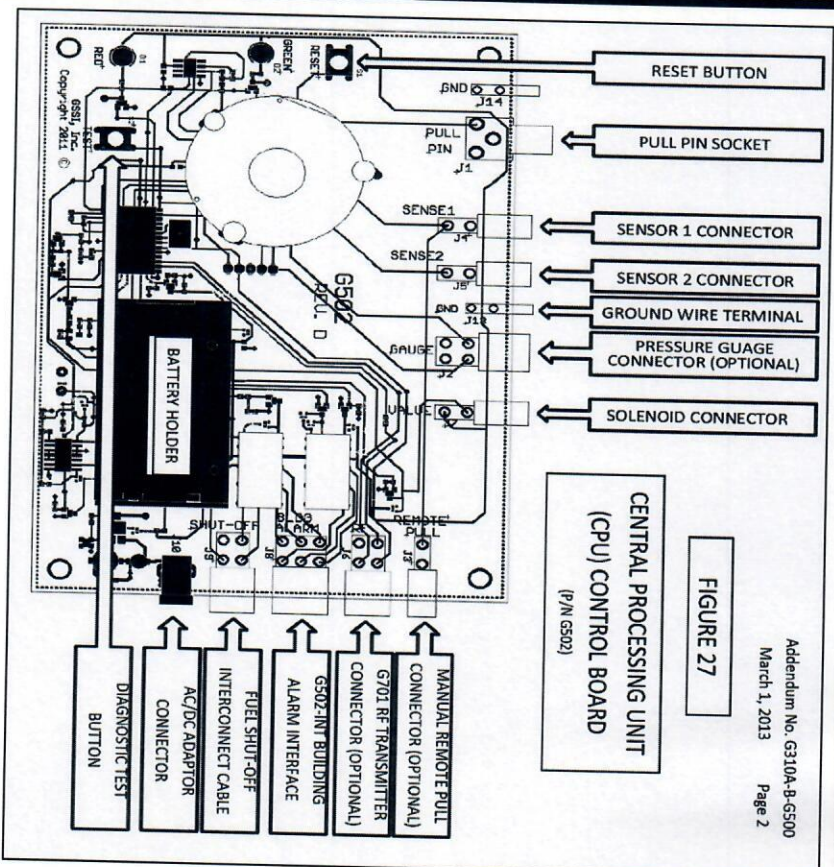

FIGURE 27
FOLLOW INSTALLATION INSTRUCTIONS AS OUTLINED IN THE GUARDIAN III OWNER'S MANUAL NO. G310A-B. SEE "SYSTEM INSTALLATION INSTRUCTIONS", PAGES 13-15. FOR PROPER ROUTING AND CONNECTION OF SENSOR WIRES TO THE G502 CPU BOARD, REFER TO FIGURES 27 AND 28, ON PAGES 2 AND 4 OF THIS ADDENDUM. SYSTEM INSTALLATION IS NOT COMPLETE UNTIL AFTER "ARMING THE SYSTEM" HAS BEEN PERFORMED AND PASSED AND THE SYSTEM HAS BEEN ARMED AND IS RUNNING IN "FIRE DETECT MODE". FOR "ARMING THE SYSTEM" SEE PAGE 5 OF THIS ADDENDUM.
PRESSING THE TEST BUTTON WILL ENTER THE CPU INTO A DIAGNOSTIC TEST MODE. PRESS AND RELEASE; DO NOT HOLD DOWN. THE SAME TESTS THAT ARE PERFORMED AT RESET ARE PERFORMED DURING THE DIAGNOSTIC TEST MODE. THESE ARE, IN THE ORDER THEY OCCUR, CHECK SENSOR 1, CHECK SENSOR 2, CHECK BATTERY, CHECK SOLENOID, CHECK FOR LOW PRESSURE (IF SO EQUIPPED), CHECK FOR PULL-PIN PRESENCE IN THE PULL PIN SOCKET (SEE FIGURE 27). UPON FAILING ANY PARTICULAR TEST, A SEQUENCE OF AUDIBLE CHIRPS WILL SOUND WHICH REPRESENT A FAILURE CODE (AS WELL AS A QUICK FLASH OF THE RED INDICATOR). IF MULTIPLE TESTS FAIL THEN YOU WILL HEAR MULTIPLE SERIES OF BEEPS WITH A PAUSE BETWEEN EACH TO IDENTIFY MULTIPLE FAILURE CODES. DIAGNOSTIC FAILURE CODES IDENTIFY WHICH OF THE SIX TESTS FAILED (SEE "DIAGNOSTIC FAILURE CODES"). THE CPU WILL THEN REVERT TO A SLOWLY FLASHING RED INDICATION IF THE TEST FAILED. IF ALL 6 TESTS PASS, THE UNIT WILL ENTER A SHUTOFF SEQUENCE. THIS PROVIDES A WAY TO VERIFY THAT THE ENTIRE SYSTEM IS WORKING PROPERLY AND THE FUEL SHUTOFF FUNCTION CAN OCCUR IN NORMAL OPERATION. SEE A FURTHER EXPLANATION OF THE SHUTOFF SEQUENCE IN SECTION 4.
- Next, check that the solenoid release latch is engaged and then remove the pull pin. Insert the pull pin in its socket on the CPU board (see Figure 27 for location).
- Reset the CPU board by pressing the Reset Button (see Figure 27) and confirm the green indicator lights up for 2 seconds.
The optional Building Alarm Interface (P/N G502INT) is provided to allow easy interfacing to external device i.e. automatic telephone dialers, monitored security alarm systems, building fire alarm systems and other warning/protective equipment. It allows for remote monitoring of the system in case of system discharge or diagnostic failure. The Building Alarm Interface provides one set of dry latching contacts that switch when an Alarm Sequence occurs (See section "5. Alarm Sequence" page 4 of this addendum) and one set of dry latching contacts that switch in the event of a Shutoff Sequence (See section "4. Shutoff Sequence" page 4 of this addendum). The Building Alarm Interface connects to the G502 CPU board and easily mounts on the side of the cylinder enclosure. See Figures 27, 28, and 29.